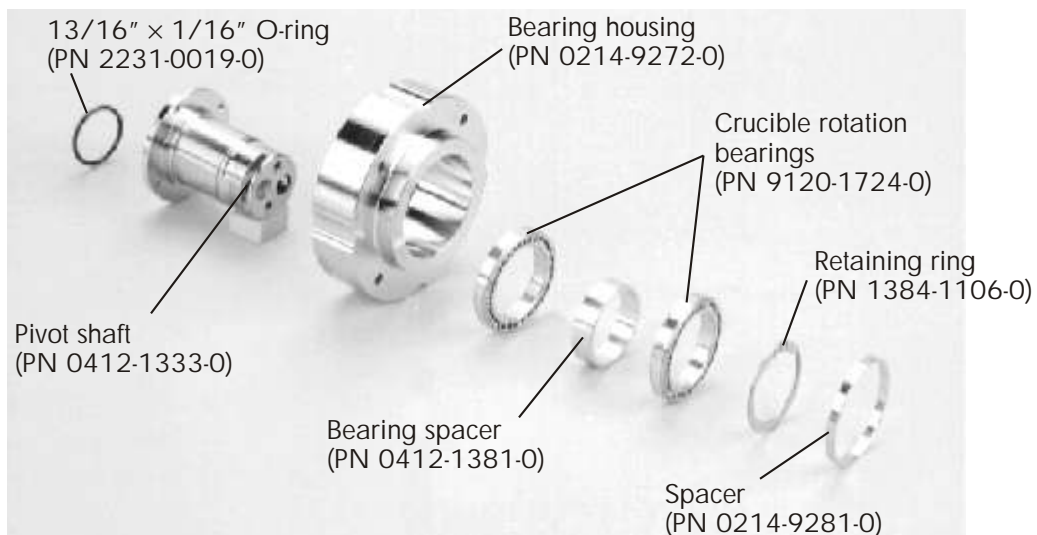

Figure 5-17. Layout of the parts of the bearing housing assembly, in order of reassembly
- Step 3. Remove the pivot shaft, upper and lower bearings, and bearing spacer from the bearing housing. Figure 5-17 shows these parts laid out in order of reassembly.